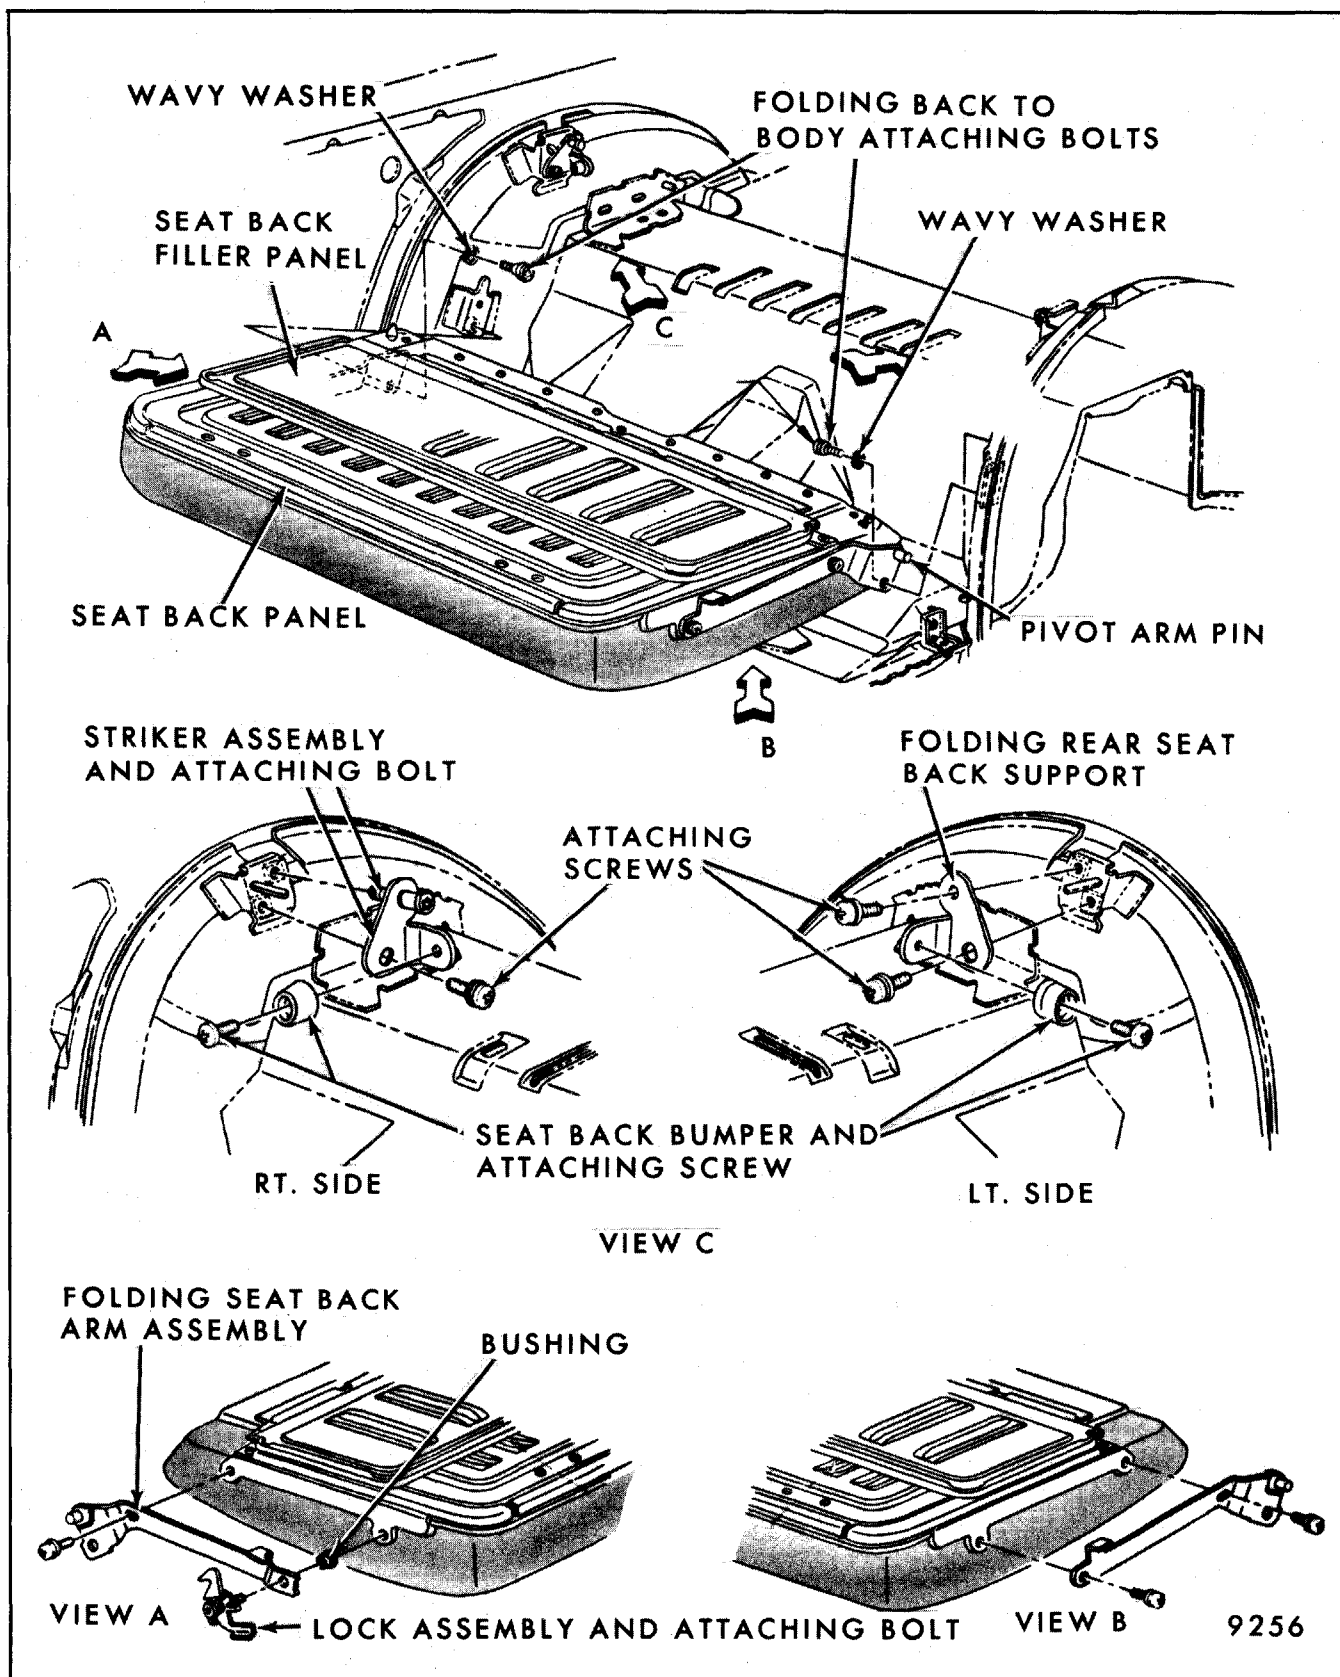

Fig. 9-74-Folding Rear Seat Back and Lock Installation Assembly - "H-07, 15, 27 and 77" Styles Shown ("X-17" Styles Typical)
1. With rear seat back in load floor position and with filler panel against seat back, remove pivot bolts (see Fig. 9-74) securing pivot arms to pivot arm supports; then remove seat back assembly from body.
2. To remove seat back pivot arm(s), remove lock and pivot arm attaching bolt on right side and/or pivot arm attaching bolts on left side (see Fig. 9-74), then remove pivot arm(s).
2. Remove lock assembly (includes attaching bolt, lock spring, latch, handle and bushing) (Fig. 9-74).
Removal and Installation (See Fig. 9-74)